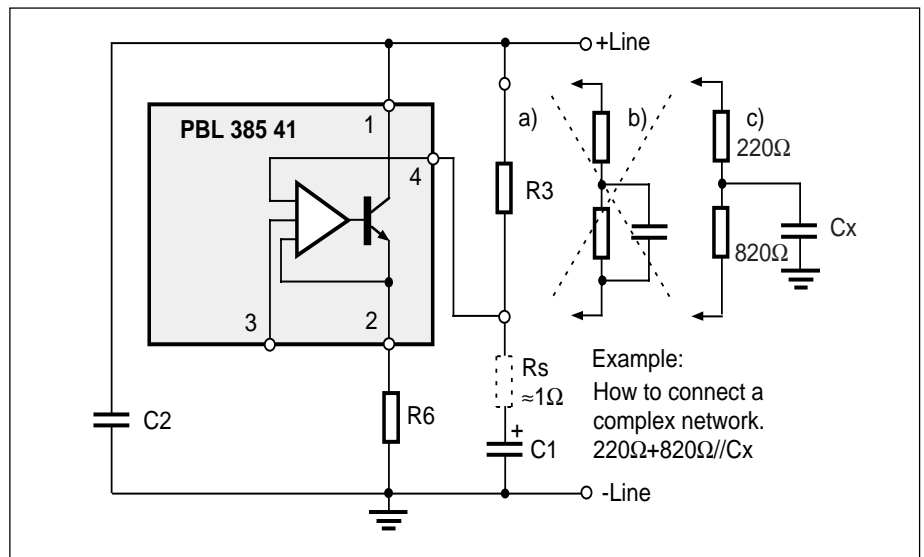

Figure 6. AC-impedance.
1. Set the circuit impedance to the line, either resistive (600Ω) or complex. (R3 and C1). C1 should be big enough to give low impedance compared with R3 in the telephone speech frequency band. Too large C1 will make the start-up slow. See fig. 6.
The AC- impedance to the line is set by R3, C1 and C2. Fig.6. The circuits relatively high parallel impedance will not influence it to any noticeable extent. At low frequencies the influence of C1 can not be neglected. Series resistance of C1 that is dependent on the temperature and the quality of the component will cause some of the line signal to enter pin 4. This generates a closed loop in the transmitter amplifier that in it's turn will create an active impedance thus lowering the impedance to the line. The impedance at high frequencies is set by C2 that also acts as a RFI suppressor.
In many specifications the impedance towards the line is specified as a complex network. See fig. 6. In case a). the error signal entering pin 4 is set by the ratio  $\approx R_s/R_3$  (910Ω), where in case b), the ratio at high frequencies will be  $R_s/220\Omega$  because the 820Ω resistor is bypassed by a capacitor. To help up this situation the